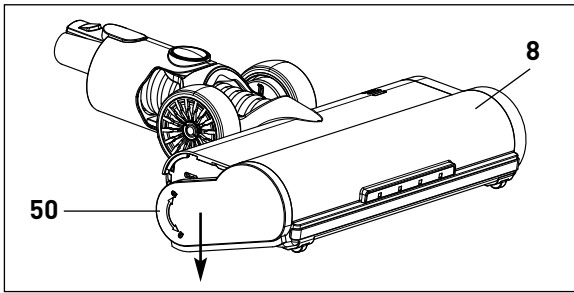
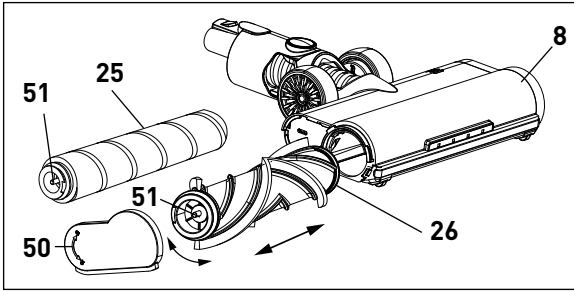

Figure 21
Figure 22
Turn the end cover (50) on the right-hand side of the Power Brush (8) downward (counterclockwise) to unlock and then remove the end cover (figure 21). Pull the brush out (figure 22) and remove any hair or string.